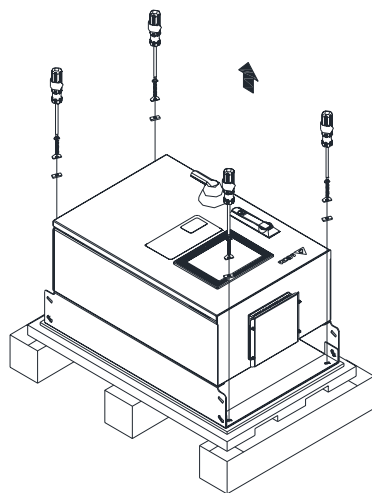

Figure 1-1
- 3) Remove the 4 M5 screws / 4 metal washers / 4 plastic washers fixed to the base (see Figure 1-1 below)